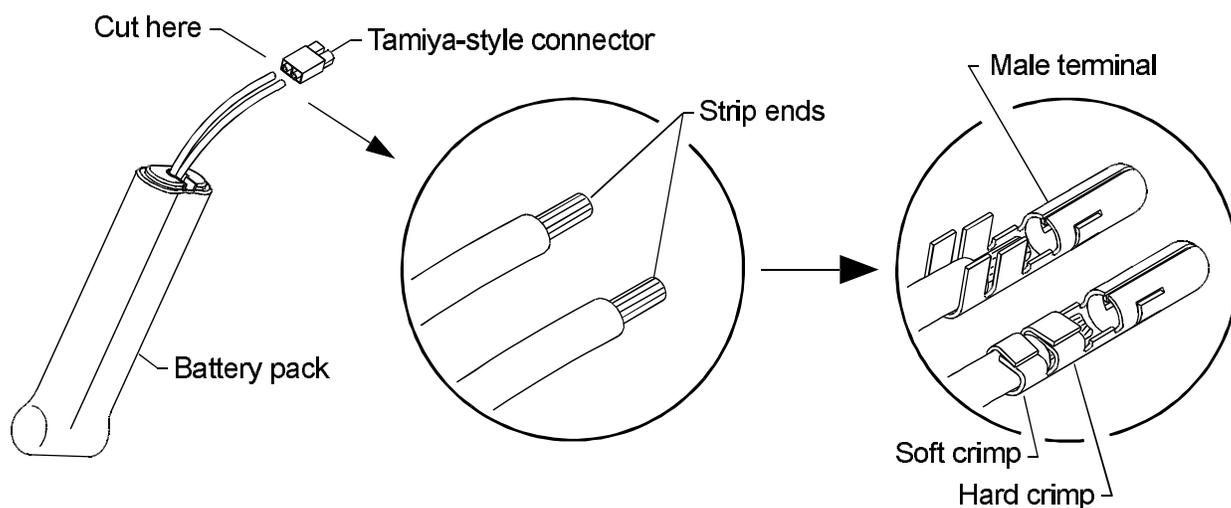

Figure 7-1.
- ❑ 1. If your battery has a low-current Tamiya-style connector, remove it and strip 1/4" (6mm) of insulation off the ends of the wires as shown in Fig. 7-1.
Batteries have male terminals as shown in Fig. 7-1, and motor speed controllers have female terminals. **DO NOT INSTALL FEMALE TERMINALS ON YOUR BATTERY.**